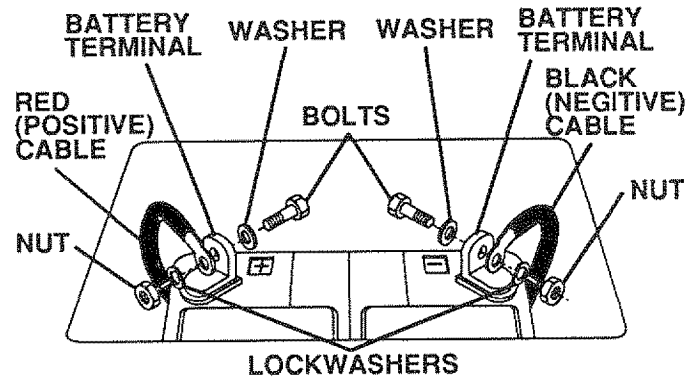

FIGURE 5
- d. Connect RED battery cable to positive (+) battery terminal with hex bolt, flat washer, lockwasher and hex nut (shown full size below) found in bag of parts (Fig. 5). Tighten securely.
- e. Connect BLACK ground cable to negative (-) battery terminal with remaining hex bolt, flat washer, lockwasher and hex nut (shown full size below) found in bag of parts (Fig. 5). Tighten securely.